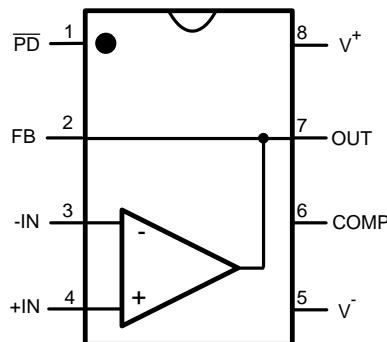

Figure 48. 8-Pin WSON Pinout Diagram
The LMH6629 (WSON-8 package only) has some additional features to allow maximum flexibility. As shown in Figure 48, there are provisions for low-power shutdown and two internal compensation settings, which are discussed in more detail in Compensation. Also provided is a feedback (FB) pin which allows the placement of the feedback resistor directly adjacent to the inverting input (IN-) pin. This pin simplifies printed circuit board layout and minimizes the possibility of unwanted interaction between the feedback path and other circuit elements.